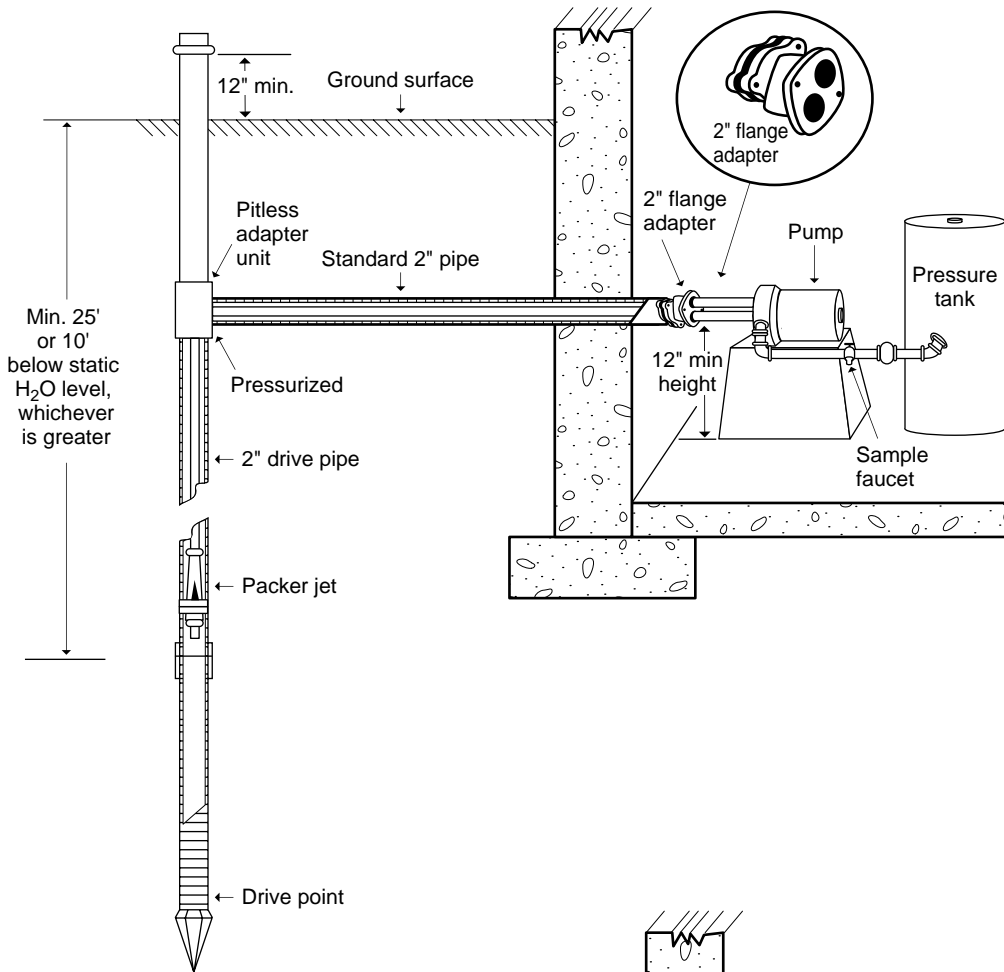

Figure 3.
- ▼ **Minimum Diameter:** There is no minimum diameter for driven-point wells installed with a “shallow” well pump. Atmospheric pressure of about 14.7 pounds per square inch allows a “shallow-well” pump to “pull” water up from a maximum depth of only about 20 feet (*Figure 2*). However, if you know the pumping water level will be deeper than about 20 feet, then you must use drive pipe having a minimum diameter of at least 2 inches. This is necessary because the drive pipe must be large enough to accommodate a “packer-jet assembly” to be installed within the pipe to enable the pump to “pull” water up from a greater depth. (See *Figure 3*). Remember, you are not allowed to construct a pit to get the pump closer to the water table to enable you to use a shallow-well pump.
- ➔ Deep-well type pump with a packer-jet assembly for water levels deeper than about 20 feet. The minimum well diameter for this type of pump is 2 inches in order to accommodate the installation of the jet assembly in the well (*Figure 3*). This type of pump can be used efficiently for wells having pumping water levels down to about 70 to 100 feet.